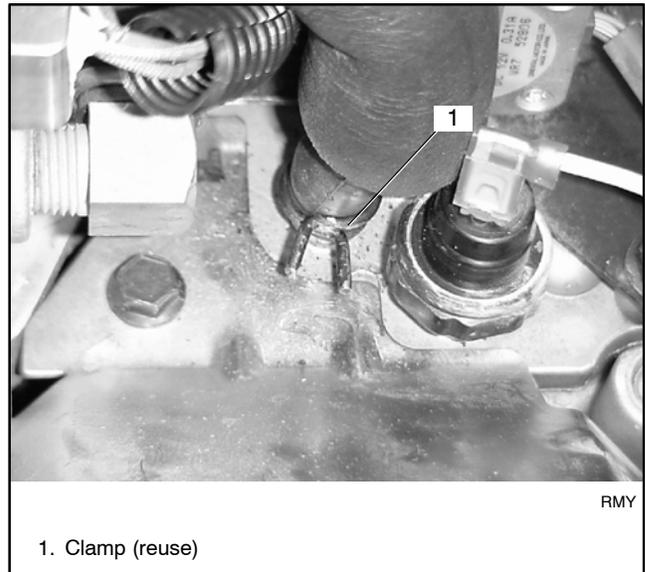

Figure 13 Breather Hose Clamp
- 5.4 Use the clamp removed in step 3.2 to attach the breather tube to the nipple on the engine crankcase. See Figure 13.